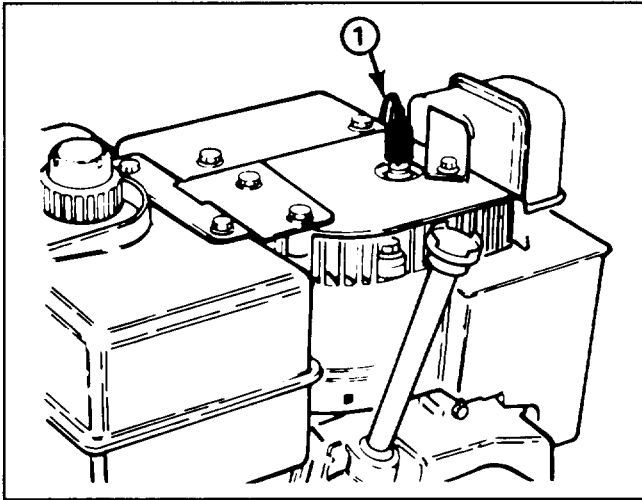

Figure 34
2. Pull wire off spark plug (Fig. 34) and remove plug from cylinder head.